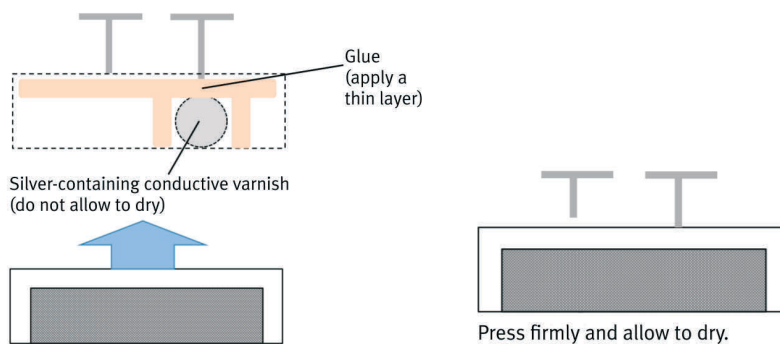
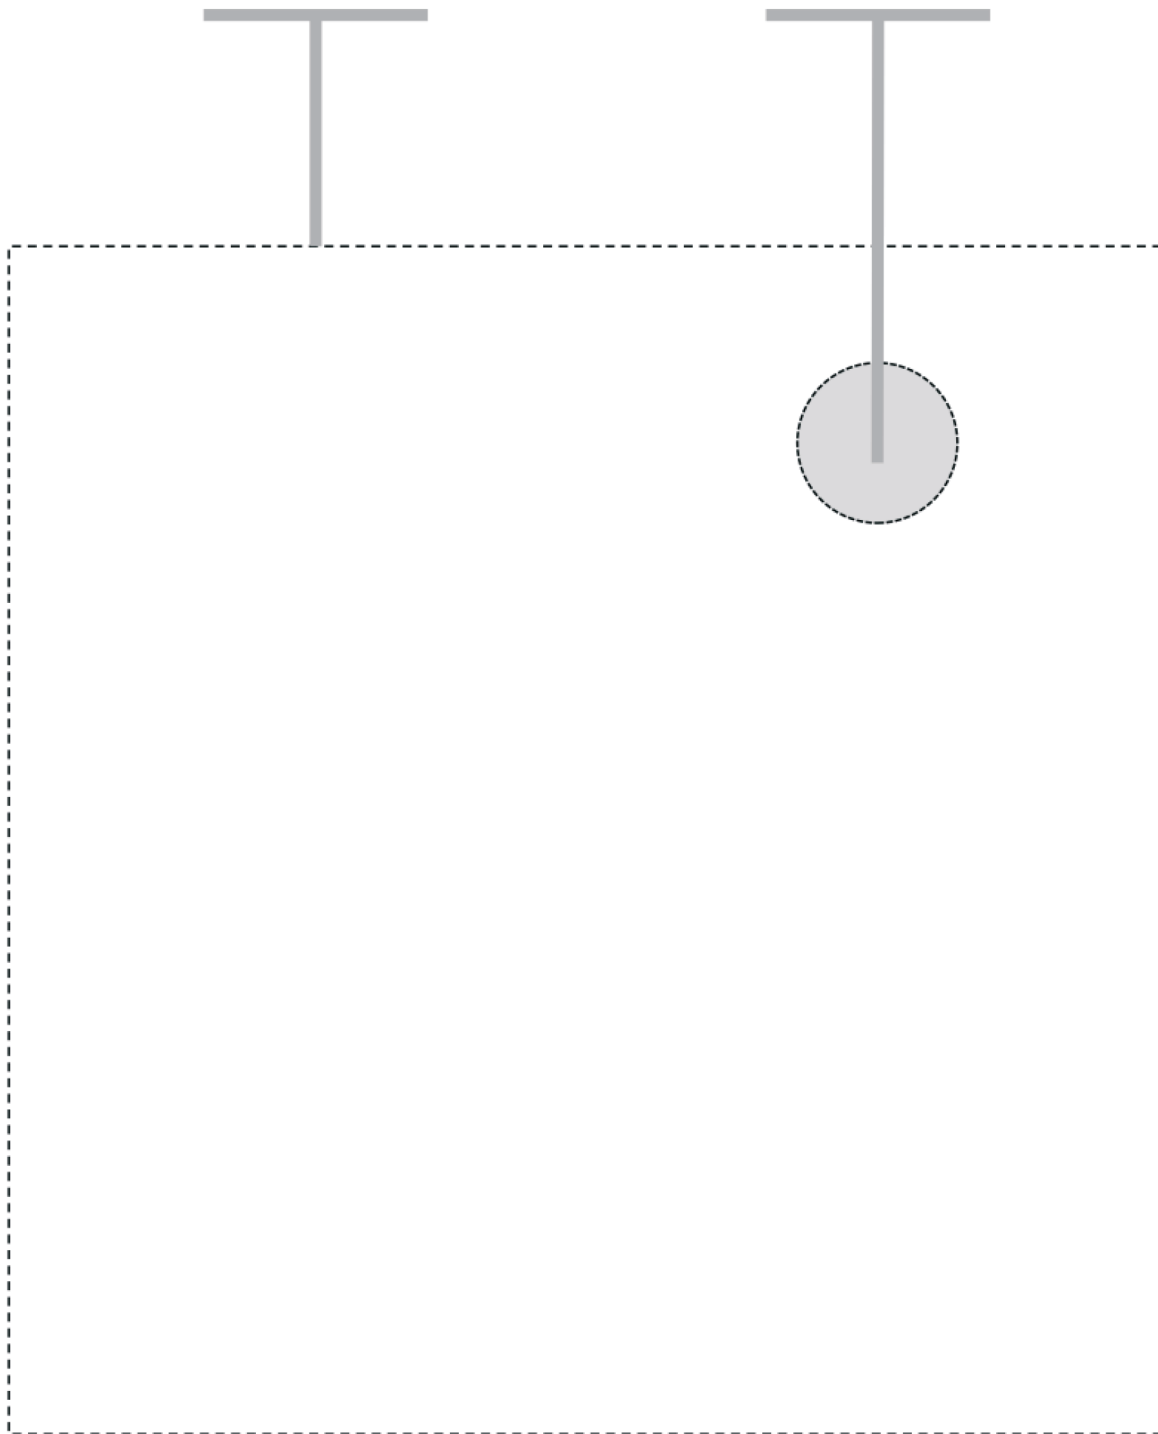

Figure 23: Gluing the paper square onto the template (figure x1)
Figure 26: Template 1, "capacitor"
- Secure the template copy (see figure 26) with the 4 magnets.
- Glue the cut out square into the square with the dotted line in the first template (see figure 26). Just before joining the two sheets, generously fill out the circle surrounded by the dotted line on the first template with silver-containing conductive varnish (electrical contact between the two sheets) (see figure 23).